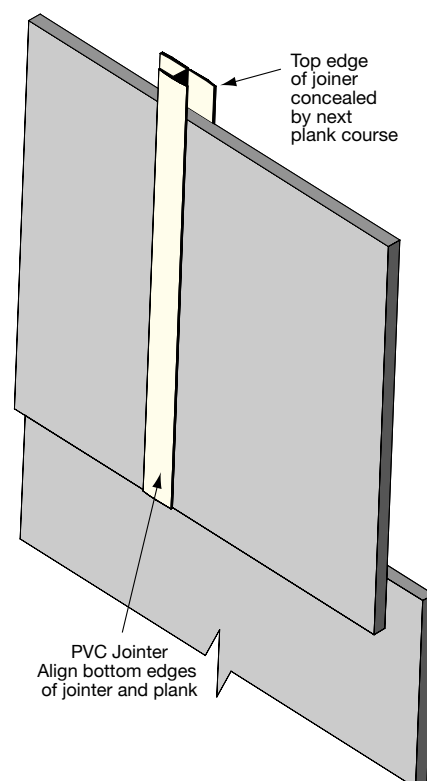

FIGURE 5 //
- Fix a starter strip or starter plank to the bottom plate to ensure the first row of planks are packed out to the correct angle. This starter strip is to be continuous around the perimeter of the building allowing the cladding to overhang the bottom plate by 50mm. See figure 5.